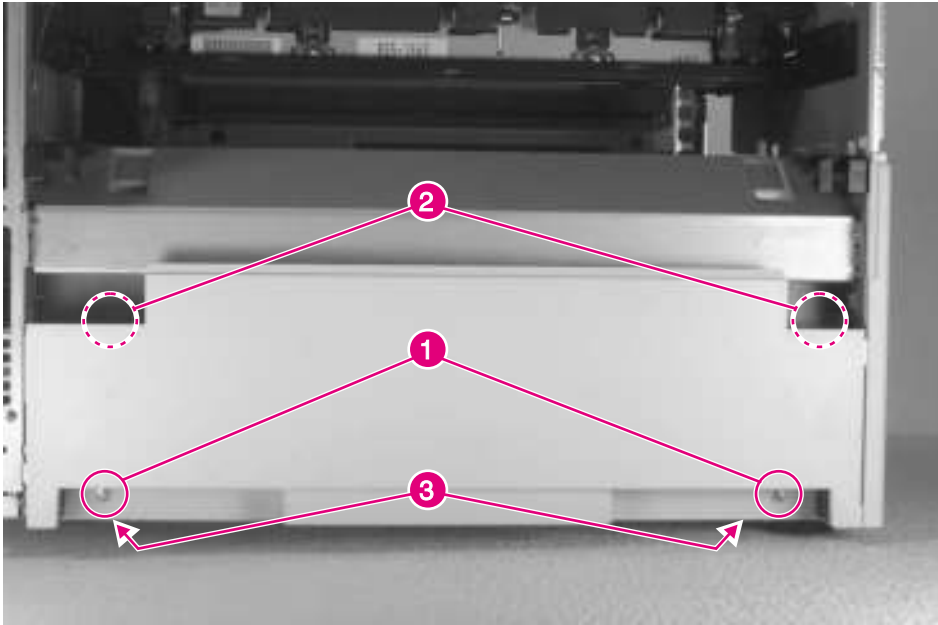

Figure 6-9 **Left Lower Cover**
- 2 Remove 2 screws (figure 6-9, callout 1).
- 3 Press down firmly on the top cover outer ends to release the retaining tabs on the inside of the cover (figure 6-9, callout 2) and the retaining tabs at the lower edge of the cover (figure 6-9, callout 3).